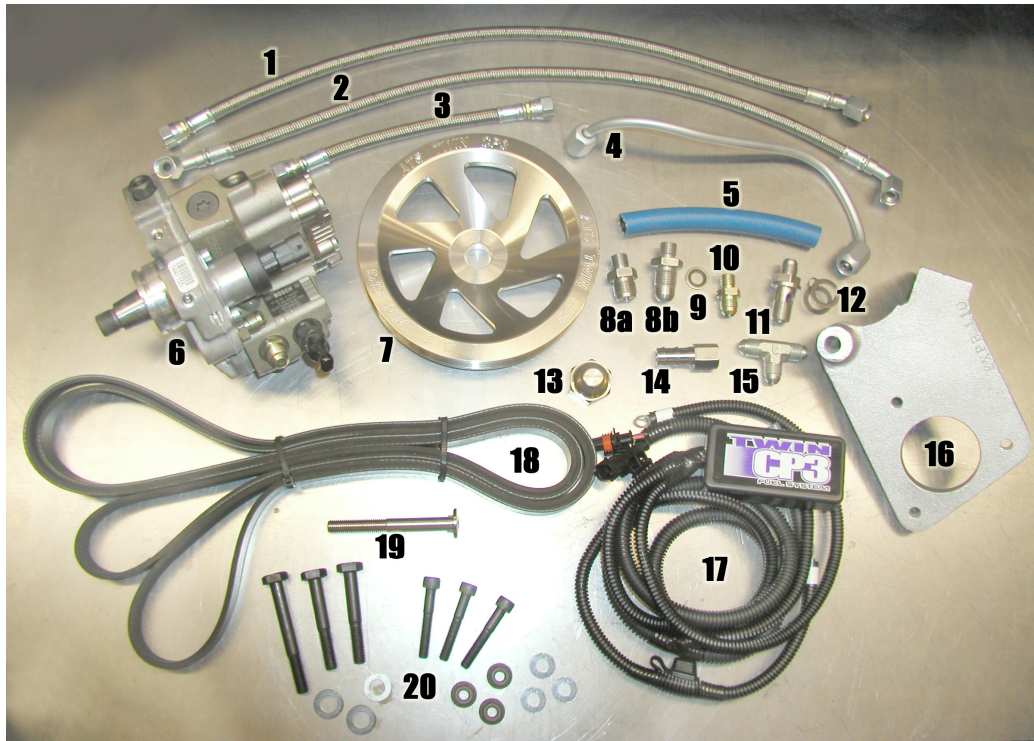
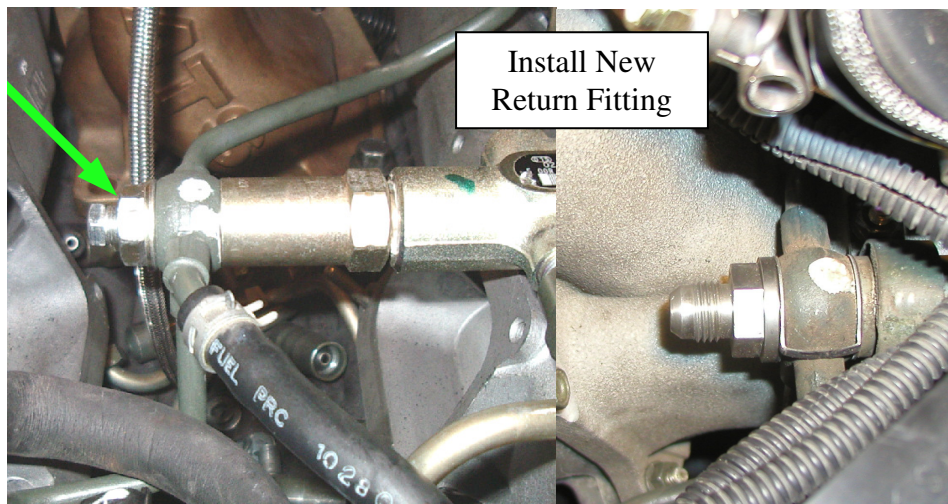

Figure 1: LB7 Twin CP3 Kit
Figure 15: Return Fitting Location
Thank you for purchasing the ATS Twin CP3 Kit. The picture below shows all the components included in the kit. Two rail fittings (8a. and 8b.) are shown in the picture. Only 8b. is included in this kit. Please check before beginning the installation to make sure all components are in the supplied LB7 Twin CP3 kit. Two ½" barbed to JIC-6 fittings (#14 in **Figure 1**) are provided in the kit for installation variations. The backside large idler pulley, alternator bracket and tensioner are not pictured.
15. Install the -6 supply fitting and seal (#9 and 10 in **Figure 1**) into the factory CP3 pump.
16. Route supplied ½" fuel hose from fuel filter housing to the supplied -6 tee using the provided ½" barbed to -6 fitting provided in the kit (#14 in **Figure 1**). Attach hose to fuel filter with existing fuel line clamp.
17. Remove fuel return banjo bolt from the top of the pressure relief valve (**Figure 15**) and install the return combination JIC-6 banjo bolt with the new seal provided in the kit (#11 and #12 in **Figure 1**).
20. Remove alternator bracket bolt shown in **figure 18** and install the 10mm x 1.5 x 80mm button head bolt (#19 in **Figure 1**) into alternator bracket. Do not over tighten.